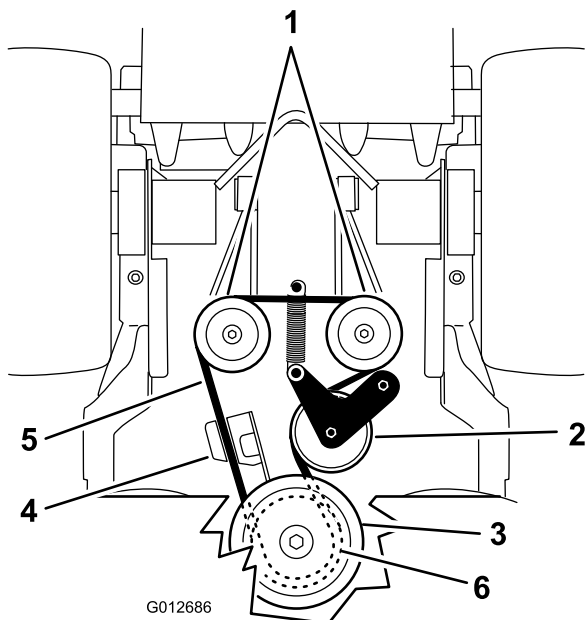

Figure 65
5. Release the spring from the engine deck (Figure 65).
6. Remove the pump drive belt (Figure 65).
8. Install the spring to the engine deck (Figure 65).